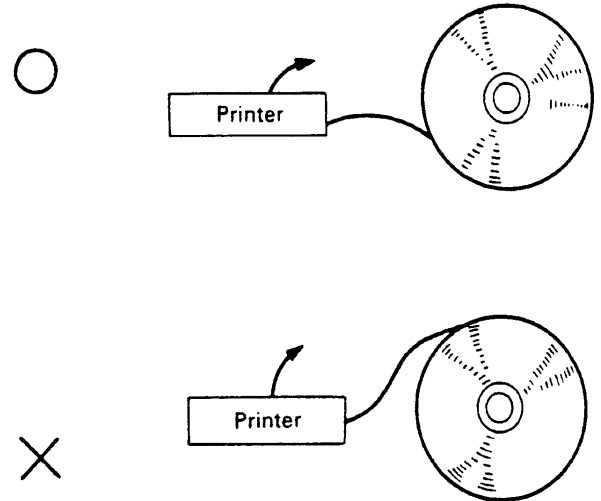

Fig. 2-2. Direction of Paper Insertion
- (1) Always insert the paper in the direction shown in Fig. 2-2.